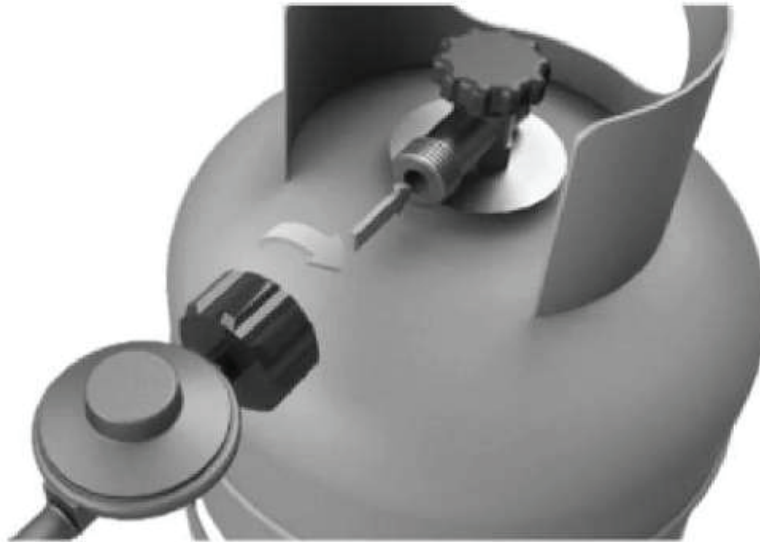

Figure 9
- 4.** When attaching the regulator assembly to the valve, tighten the nut clockwise by hand (Figure 9) until it stops.